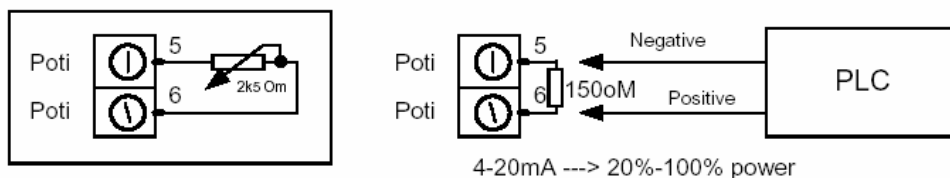

FIG 2
2. When using the PLC current output (from 4 to 20 mA) there must be a 150 Ohm resistor connected between terminals 5 and 6. The power will vary from 20% to 100% (see Fig. 2).